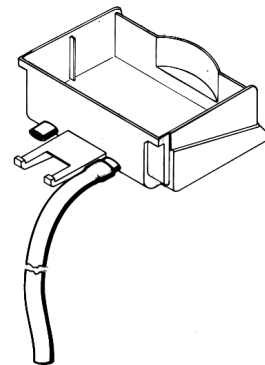

figure 1
- 8 Each drip tray has two diaphragm plugs: if a continuous drain is needed, perforate one of the drain plugs and connect it to a flexible drain line (see figure 1).